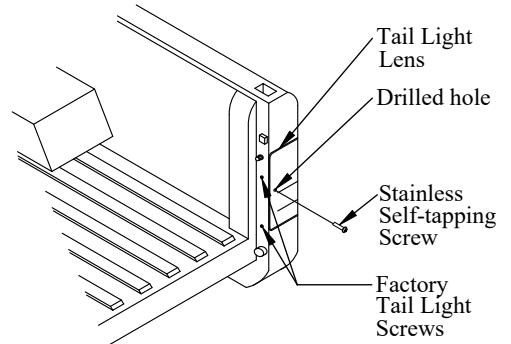

Figure 7: Tail light modification detail.
1. Remove the two (2) factory tail light screws from each tail light lens (Figure 7).
2. Carefully Drill a 9/64" hole through each tail light lens and internal sheet metal (Figure 7).
3. Carefully Drill a 3/16" hole through each tail light lens only, for screw clearance (Figure 7).